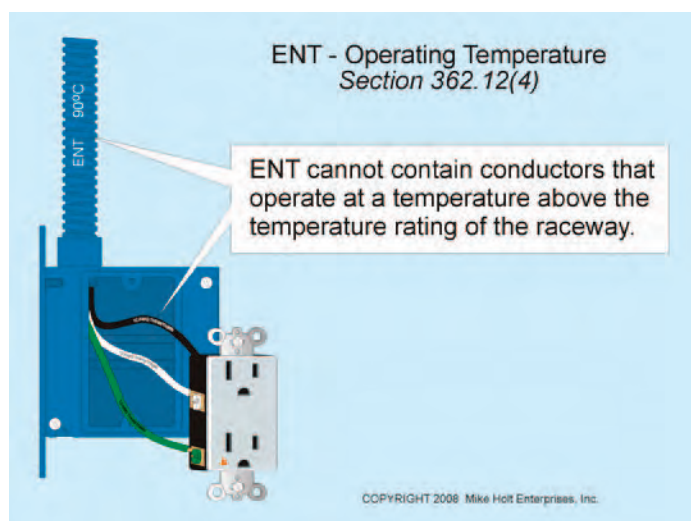

Figure 362–1
- (1) In any hazardous (classified) location, except as permitted by 504.20 and 505.15(A)(1).
- (2) For the support of luminaires or equipment. See 314.2.
- (3) Where the ambient temperature exceeds 50°C (122°F).
- (4) Where conductors operate at a temperature above the temperature rating of the raceway. **Figure 362–1**
- (6) As a wiring method for systems over 600V.
- (7) Exposed in buildings over three floors, except as permitted by 362.10(2) and (5) Ex.
- (8) In assembly occupancies or theaters, except as permitted by 518.4 and 520.5.
- (9) Exposed to the direct rays of the sun for an extended period, unless listed as sunlight resistant.
Author's Comment: Exposing electrical nonmetallic tubing exposed to the direct rays of the sun for an extended time may result in the product becoming brittle, unless it is listed to resist the effects of ultraviolet (UV) radiation. **Figure 362–2**
- (10) Where subject to physical damage.